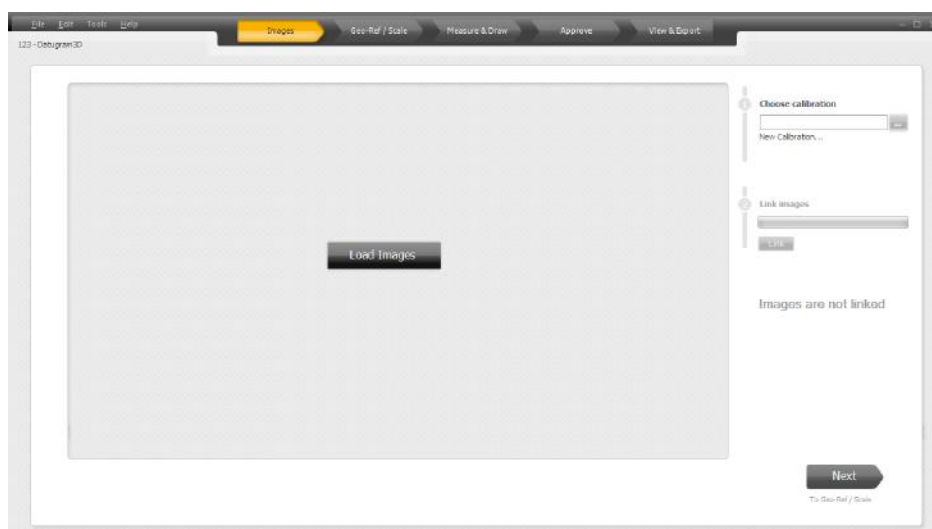

Figure 30: “Load Images” Window
2. Browse to the DatuSurvey™ Jobs folder, click the Jobs folder, select the Job file, and click **Open**. The images are displayed in the “Images” window (Figure 30).
The first screen displayed after a job is opened is the “**Images**” window (Figure 30). In this window you handle the imagery of the job: loading images, removing images, calibrating the camera with which the images were taken, and geometrical linkage of the images.